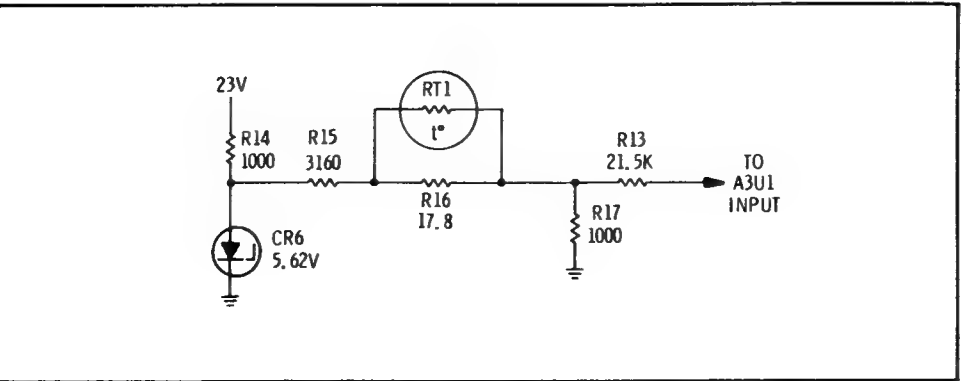

Figure 8-12. Simplified Temperature Compensation Circuit
a. **Temperature Compensation.** As the temperature of the Yig filter rises, the resonant frequency tends to decrease at a rate of approximately 3 MHz/°C. An increase in temperature decreases the resistance of thermistor RT1. This causes the voltage at the junction of R16 and R17, which is fed to the inverting operational amplifier U1 through R13, to go more negative. The amplifier output then goes positive, which raises the Yig frequency, compensating for the drop caused by increasing temperature. A simplified diagram of the temperature compensation circuit is given in Figure 8-12. At 25°C this circuit gives some offset current. This offset is removed by the offset compensation circuit, leaving only the changes from 25°C to be corrected by the temperature compensation circuit.